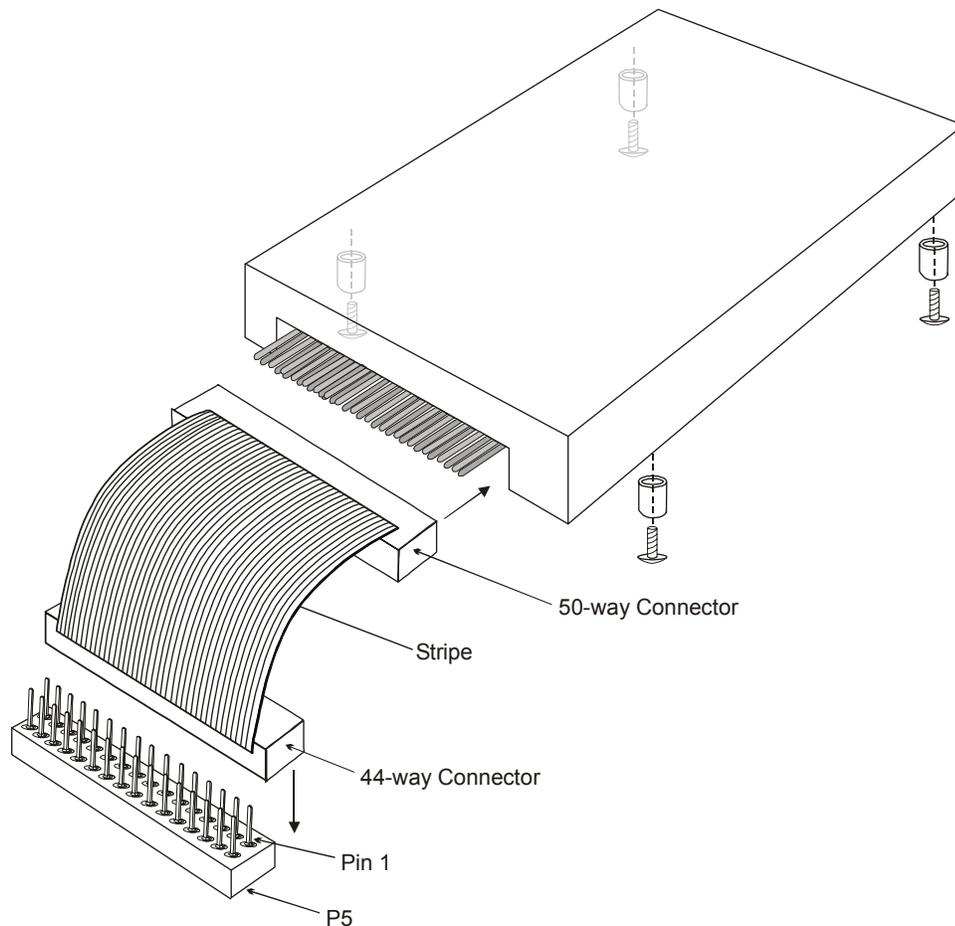

Figure 2-7
- 1) Plug the 50-way connector into the disk drive as shown in Figure 2-7 below, note the orientation.